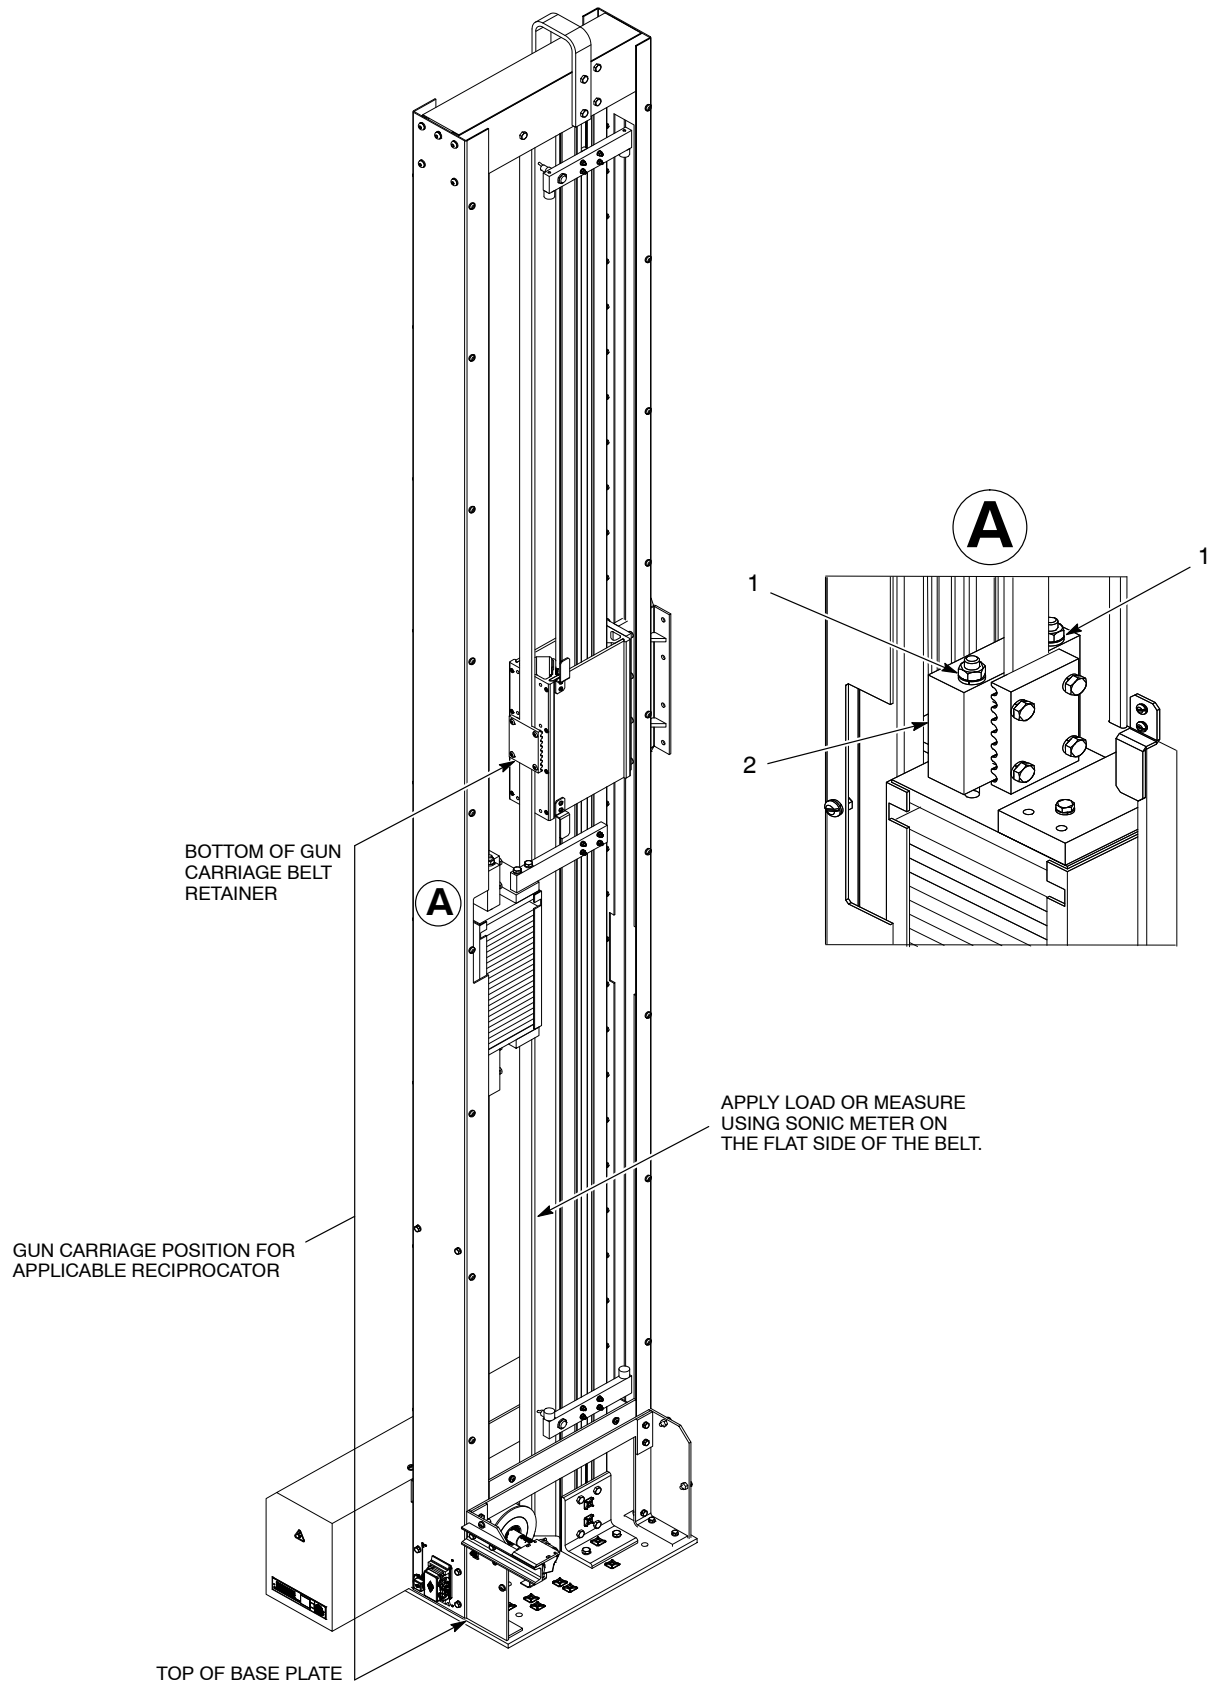

Figure 10 Adjusting Belt Tension
2. See Figure 10. Alternately tighten or loosen the tension nuts (1) on the top of the pulley belt retainer (2) until the proper reading is obtained.